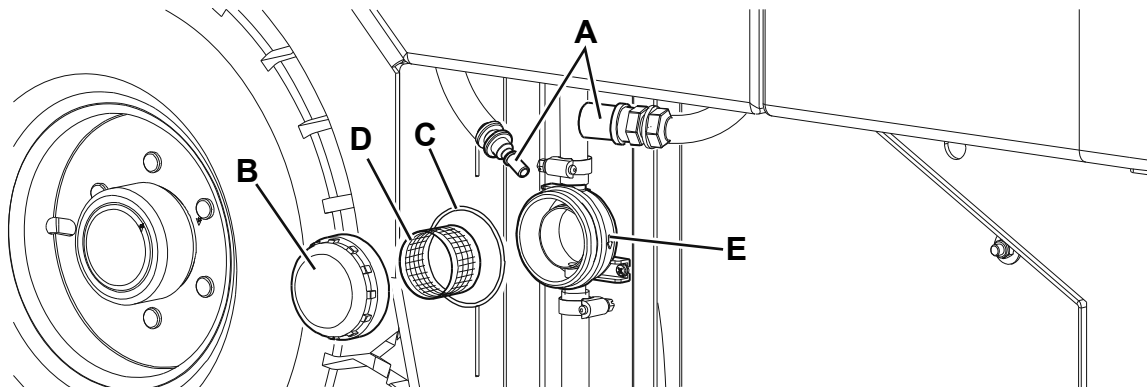

Figure 7
1. Drive the machine on a level floor, engage the parking brake and turn the ignition key (57) to "O".
2. Disengage the quick coupling (A, Fig. 7) from the tank hoses.
3. Remove the left panel (2) to reach the water filter (30).
4. Remove the transparent cover (B) with the gasket (C), then remove the filter strainer (D). Clean and reinstall them on the support (E).